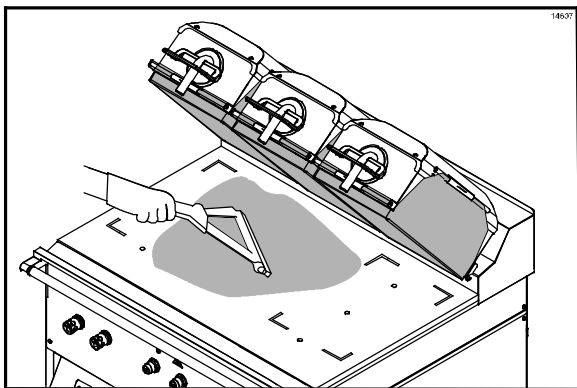

Figure 73
48. Using a clean squeegee, spread the flakes on the cooking zone. (See Figure 73.)